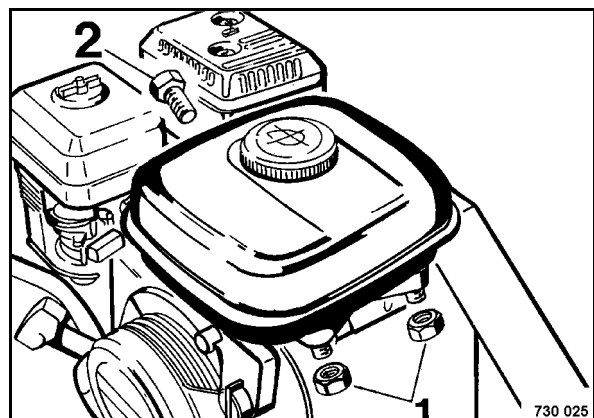

Fig. 55
- For this purpose unscrew hexagon nut (1) (Fig. 55) and hexagon screw (2).